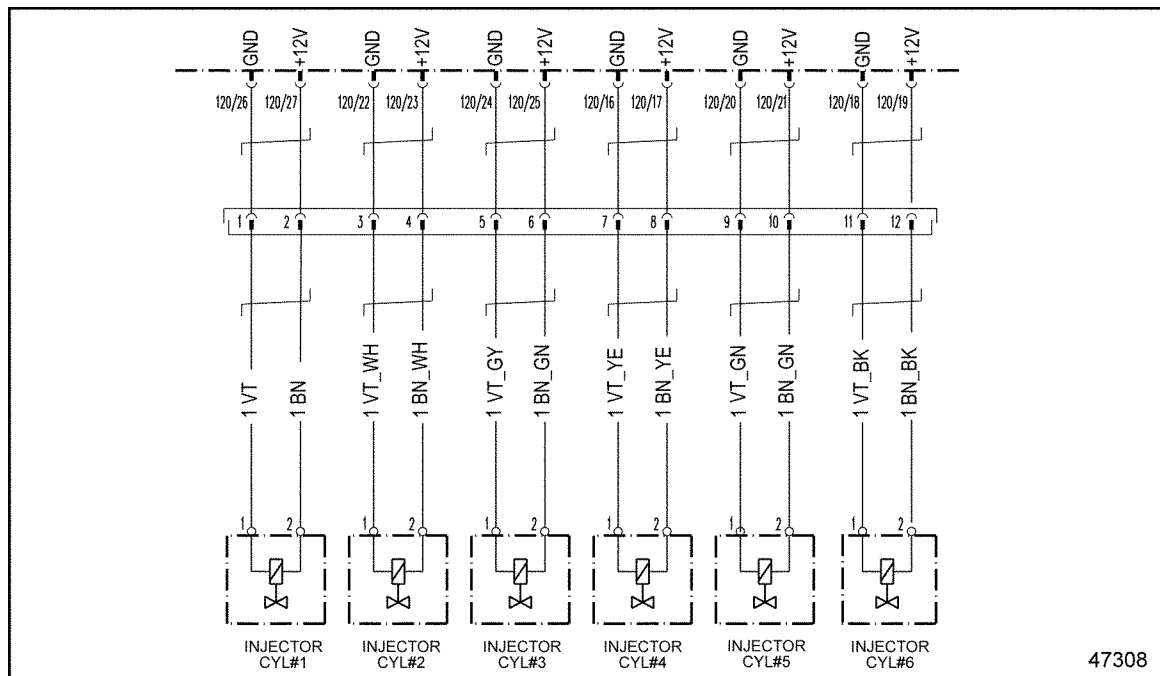

Figure 26-2 MBE 900 Injectors
3. Measure the resistance between pin 5 of injector #3 and ground on the valve cover side of the Injector Harness 12-pin connector. See Figure 26-2.